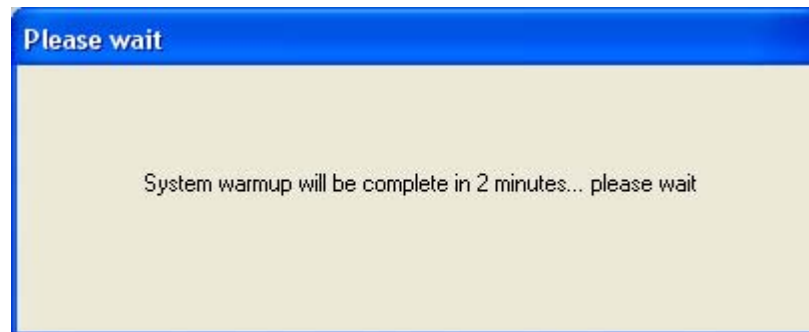

Figure 3-6 Warmup in Progress
- At the Monitor, observe that the message "System warmup will be complete in 2 minutes... please wait" is displayed on the user interface. (Figure 3-6.)